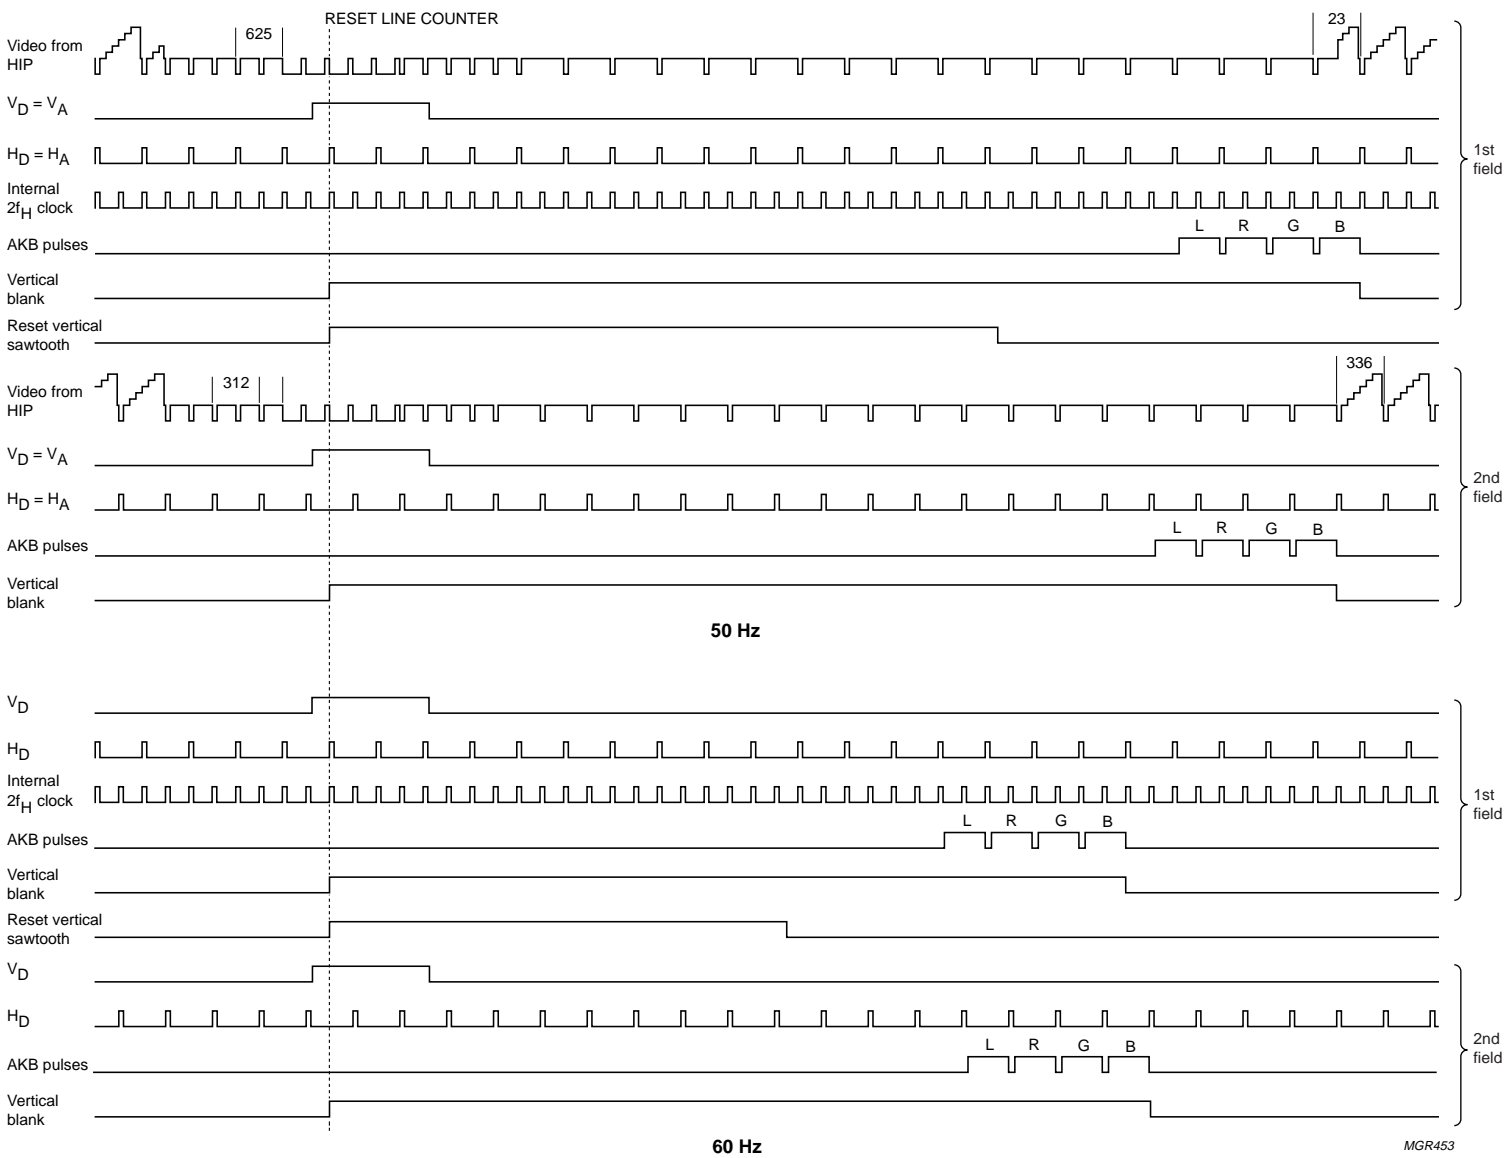

Fig.12 Vertical timing pulses for 1fH TV mode.
38. The vertical guard pulse from the vertical output stage should be connected to pin 9 which acts as a current sense input. The guard pulse should fall within the vertical blanking period (see Figs 12 and 13) and should have a width of at least one line period. The guard current value should be at least 1 mA.
46. With the vertical wait function, the start of the vertical scan can be delayed with respect to the incoming vertical sync pulse. The operation is different for the various scan modes, see Table 55 and Figs 12 and 13. The minimum value for the vertical wait is 8 line periods. If the setting is lower than 8, the wait period will remain 8 line periods.
| 1f H ; TV mode          | fixed; see Fig.12                                  |